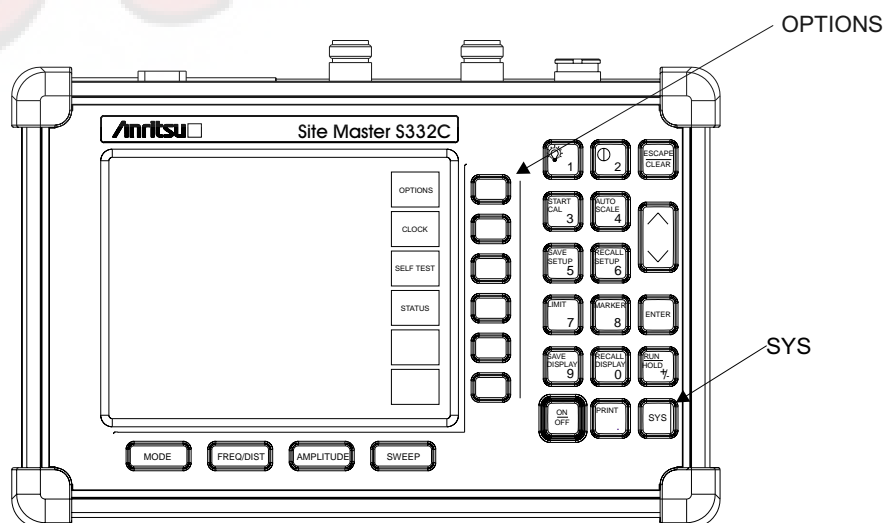

Figure 3-5-. SYS Key and OPTIONS Soft Key
Step 3. Press the **SYS** key and the **OPTIONS** soft key (Figure 3-5).